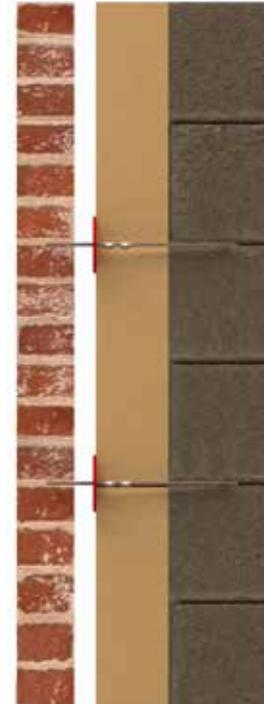

Figure 2 - Installation of wall ties.
- Additional ties may be required for structural stability and to ensure adequate retention of the IKO enertherm insulation boards against the inner leaf (Figure 2)